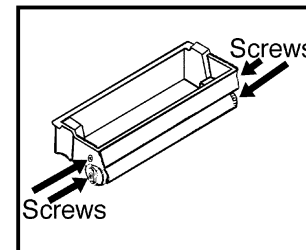

Figure 3
4. Remove the OPC drum (4 screws). Clean, inspect and lubricate the drum (with padding powder) and store in a dark place. Replace if necessary (Fig. 3).